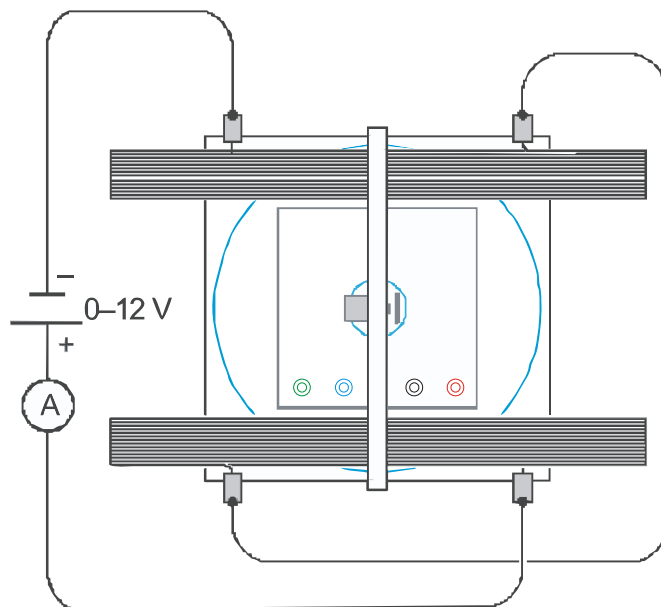

Fig. 2 Electrical connections to the pair of Helmholtz coils
- Connect the coils in series to the DC power supply 20 V, as shown in Fig. 2, so that equal current passes through both coils.